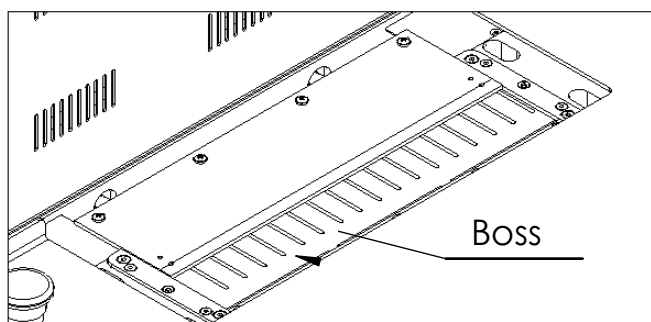

Figure.21
- a) Dismember bottom mould (boss) and clean it. (Figure.21)